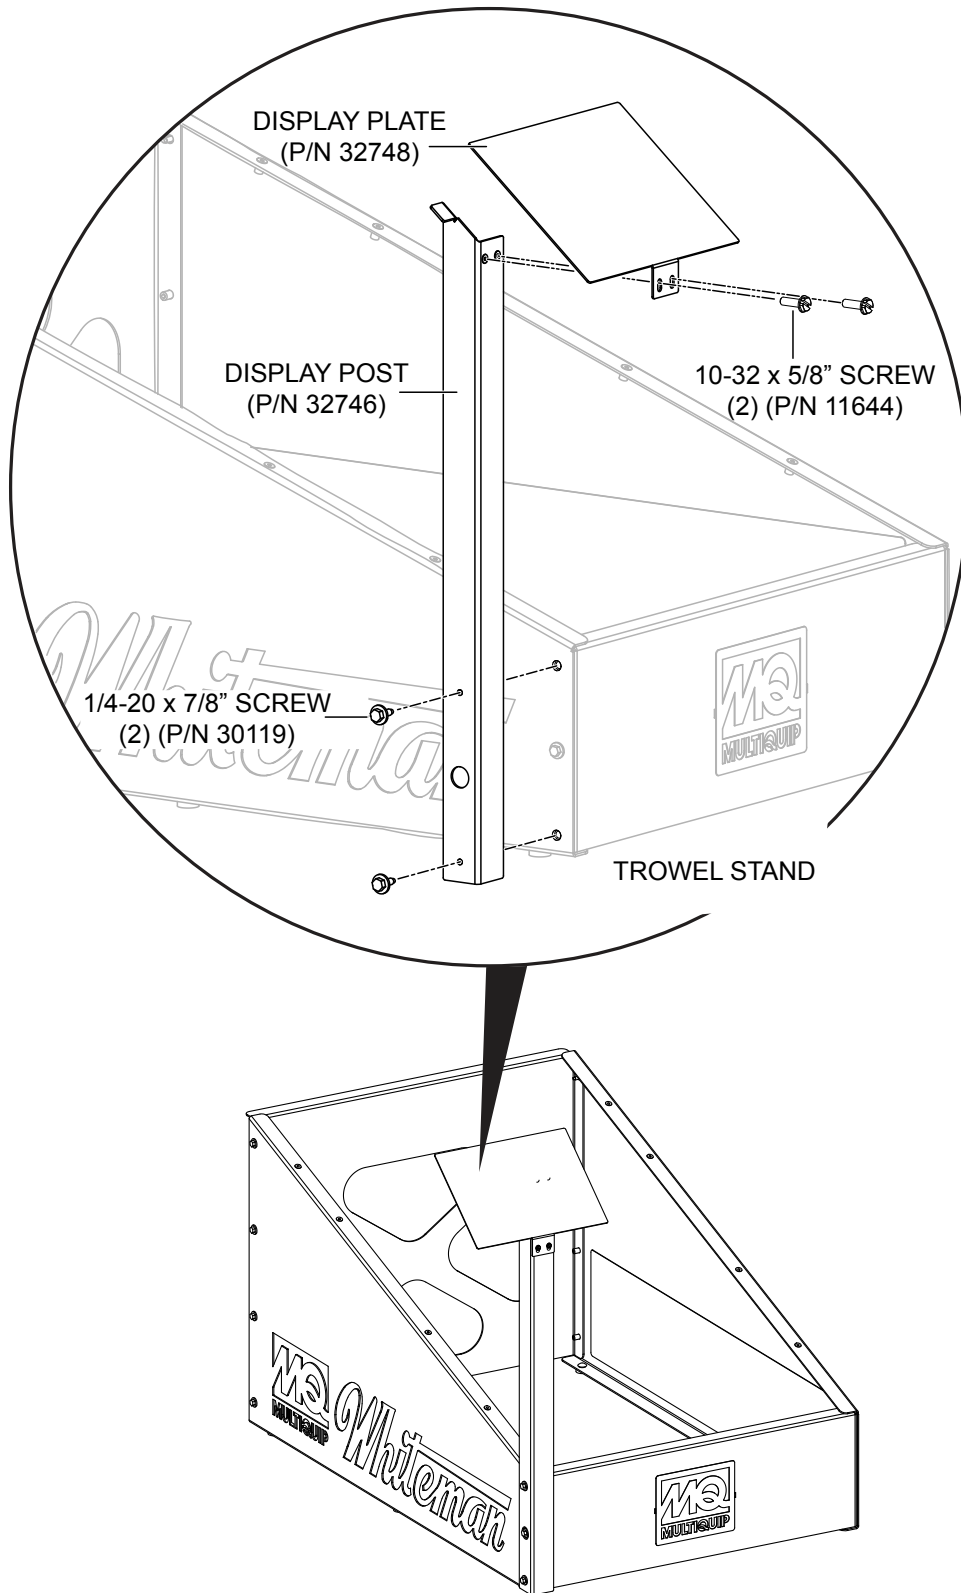

Figure 3. Display Post and Plate Assembly
1. Attach the display post (P/N 32746) to the trowel stand as shown in Figure 3 using 1/4-20 x 7/8" screws (2).
2. Attach the display plate (P/N 32748) to the display post as shown in Figure 3 using 10-32 x 5/8" screws (2).